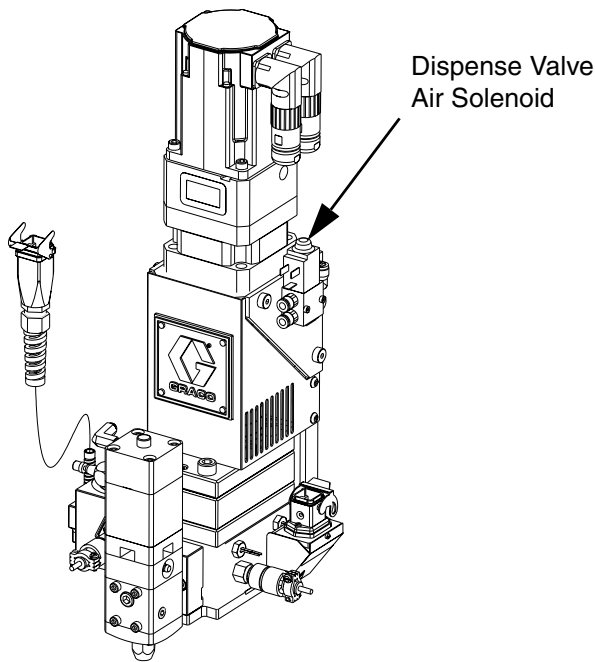

FIG. 16: Dispense Valve Air Solenoid
8. If the dispense device cannot be actuated from the control center, refer to FIG. 16 and perform the following steps to open the dispense valve and relieve fluid pressure:
- a. Manually actuate the plunger on the solenoid, that opens the dispense valve to relieve fluid pressure. Refer to FIG. 16.